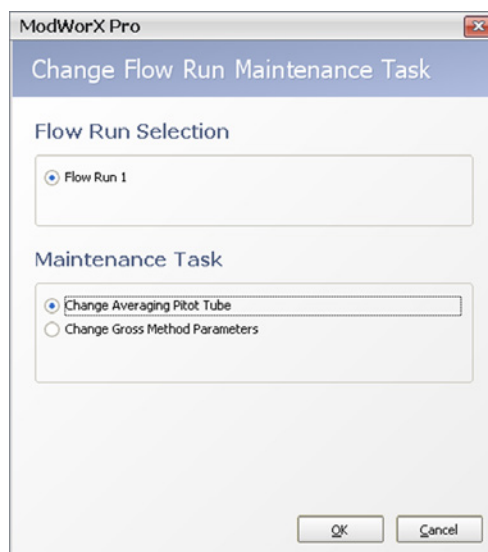

Figure 11.9
1. If Change Gross Method Parameters is not displayed in the Maintenance Task field at the top of the Maintain Flow Run screen, click on **Change Task**. The Change Flow Run Maintenance Task dialog will appear (Figure 11.9).